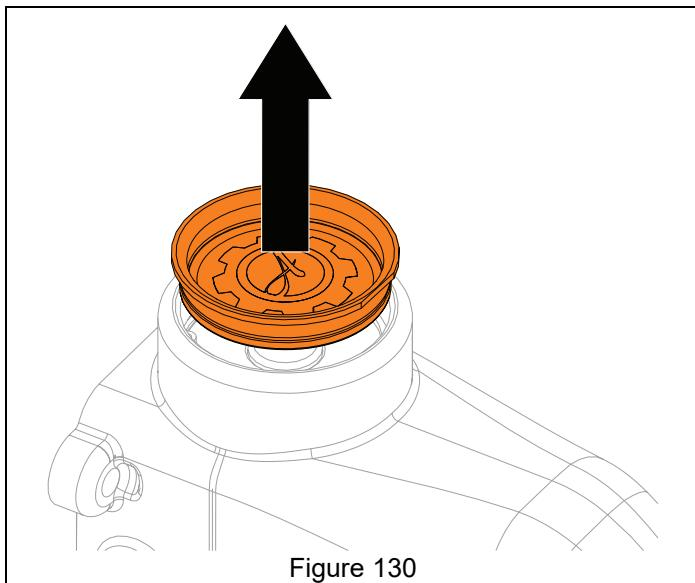

Figure 130
9. Using a flathead screwdriver or similar pry bar, remove front seal cover and discard. See Figure 130.